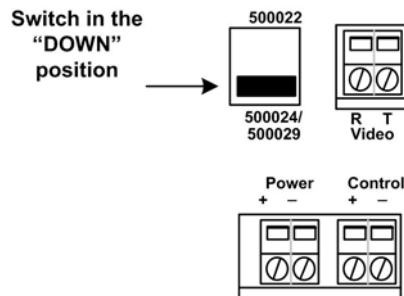

Figure 14: Port Setting – Power-Thru Mode (500024/500029)
6. In order to transmit video on one (1) twisted pair and remote power on three (3) twisted pairs, set the port switch to Power-Thru Mode (500024/500029) as shown in figure 14. Ensure that there is a CCTV Power-Thru Balun (500024 or 500029) at the camera.